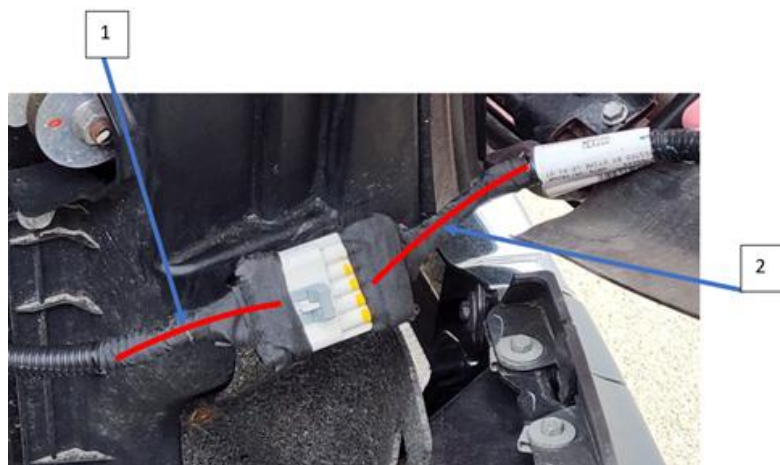

Figure 5. Wiring Harness Taped
14. Add electric harness tape to the 5-pin connector and headlight assembly harness (Figure 5, Item 2).
15. Add electric harness tape to the 5-pin connector and chassis forward harness (Figure 5, Item 1).